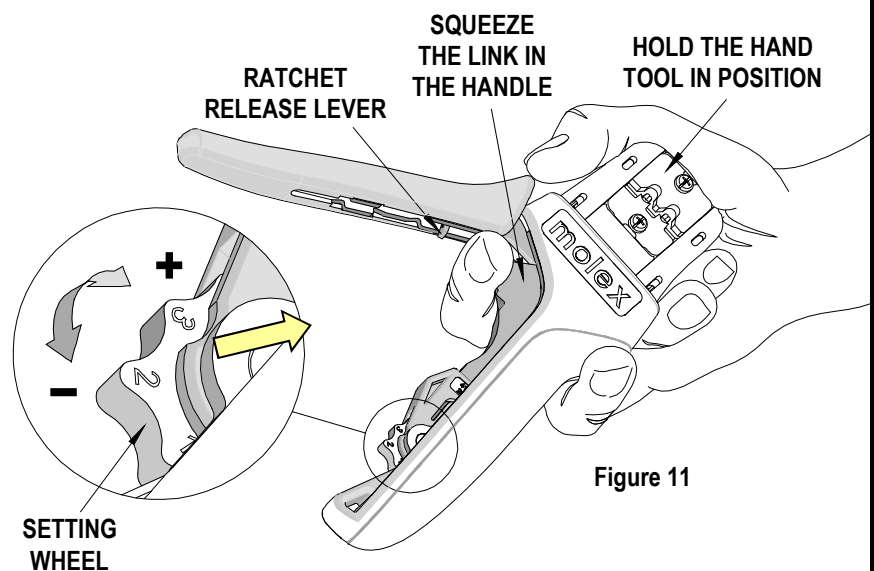

Figure 11
How to Adjust Tool Preload (See Figure 11)
1. Hold the hand tool in the palm of your hand as shown in Figure 11. Using your index finger, squeeze the link toward the top of the hand tool frame. This will release the preload adjustment wheel.
2. Rotate the setting wheel counterclockwise (CCW) to increase handle force. The numbers will display higher. To decrease handle force, rotate the setting wheel clockwise (CW).